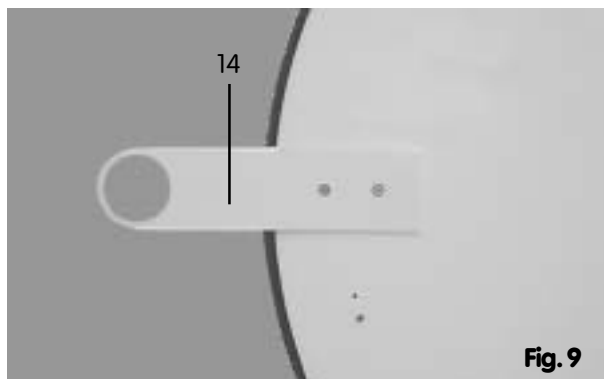

Fig. 9
Now lift the stand foot (8) on the lower left side into the positioning tongue (14) in the baseplate (Fig. 9).